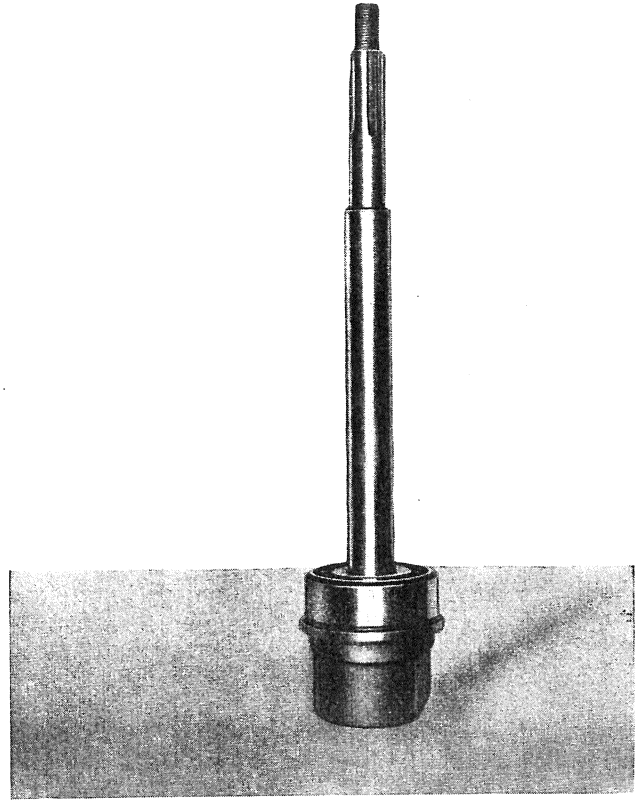

Fig. 223 - Removal of rear ball bearing after inserting the bevel drive pinion in remover A. 42013 (Sedan) or A. 42016 (Multipla).
- disassemble bevel pinion bearing (fig. 223).